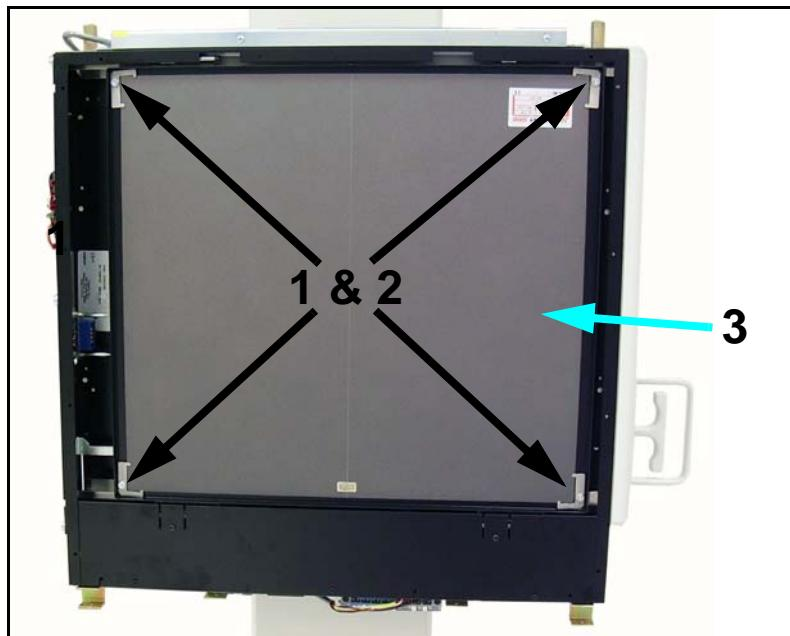

Figure 6-13. Grid
- 5 Unscrew grid clamp screws (1 in Figure 6-13) and remove clamps (2) and grid (3).